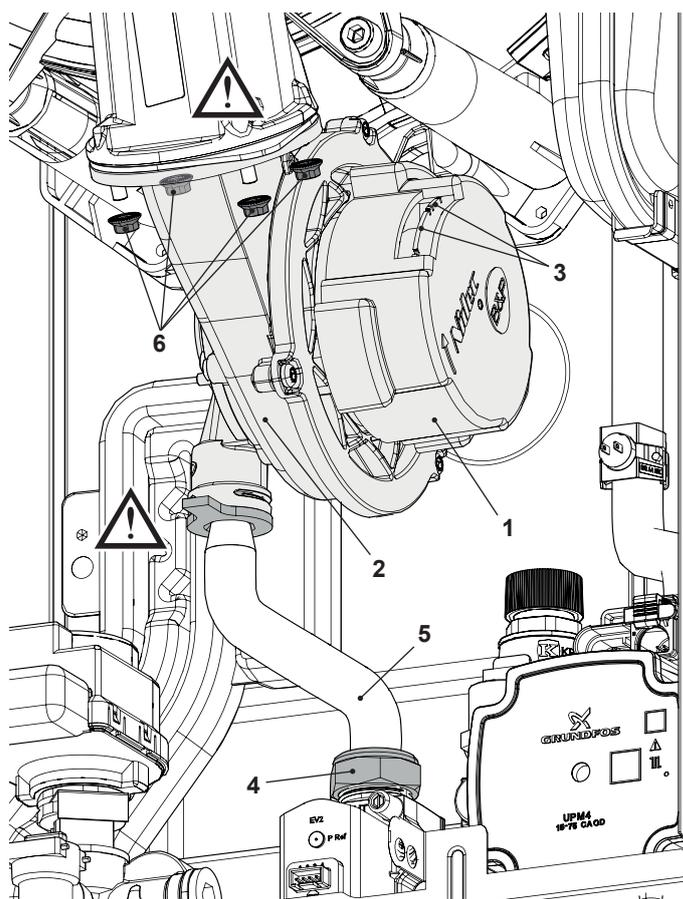

Figure 17.2
- 3 Unscrew the gas connector "4" and remove the gas pipe "5" (Figure 17.2).
Before reassembling ensure the fan gasket (Figure 17.2) is correctly mounted.